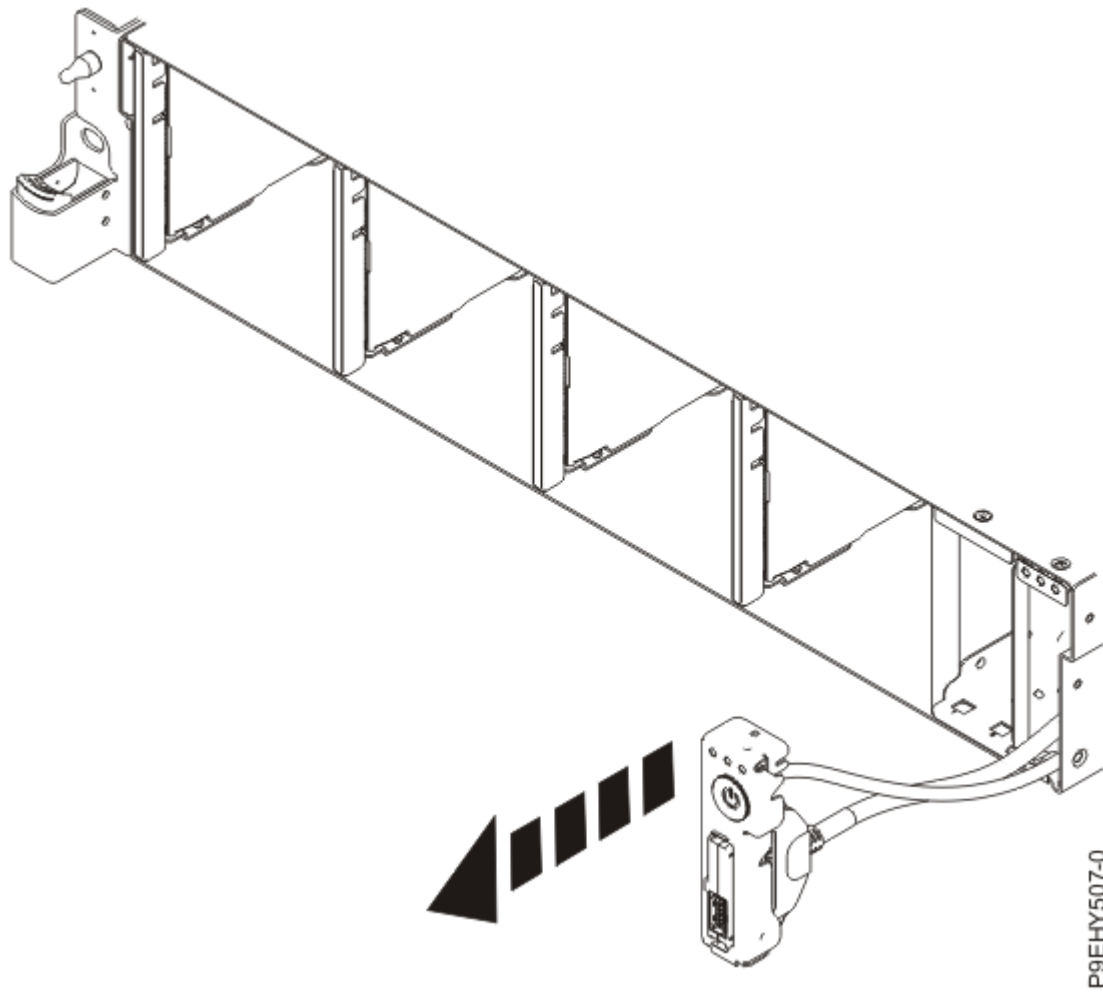

Figure 103. Pull out the power switch and cable
9. Pull the power switch from the system as shown in Figure 103 on page 124.